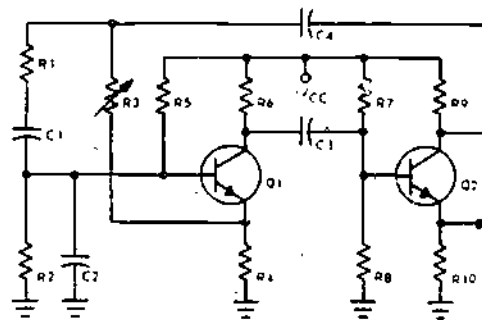

Figure 7
For questions 7 thru 10 refer to Figure 7.
2. Figure 7